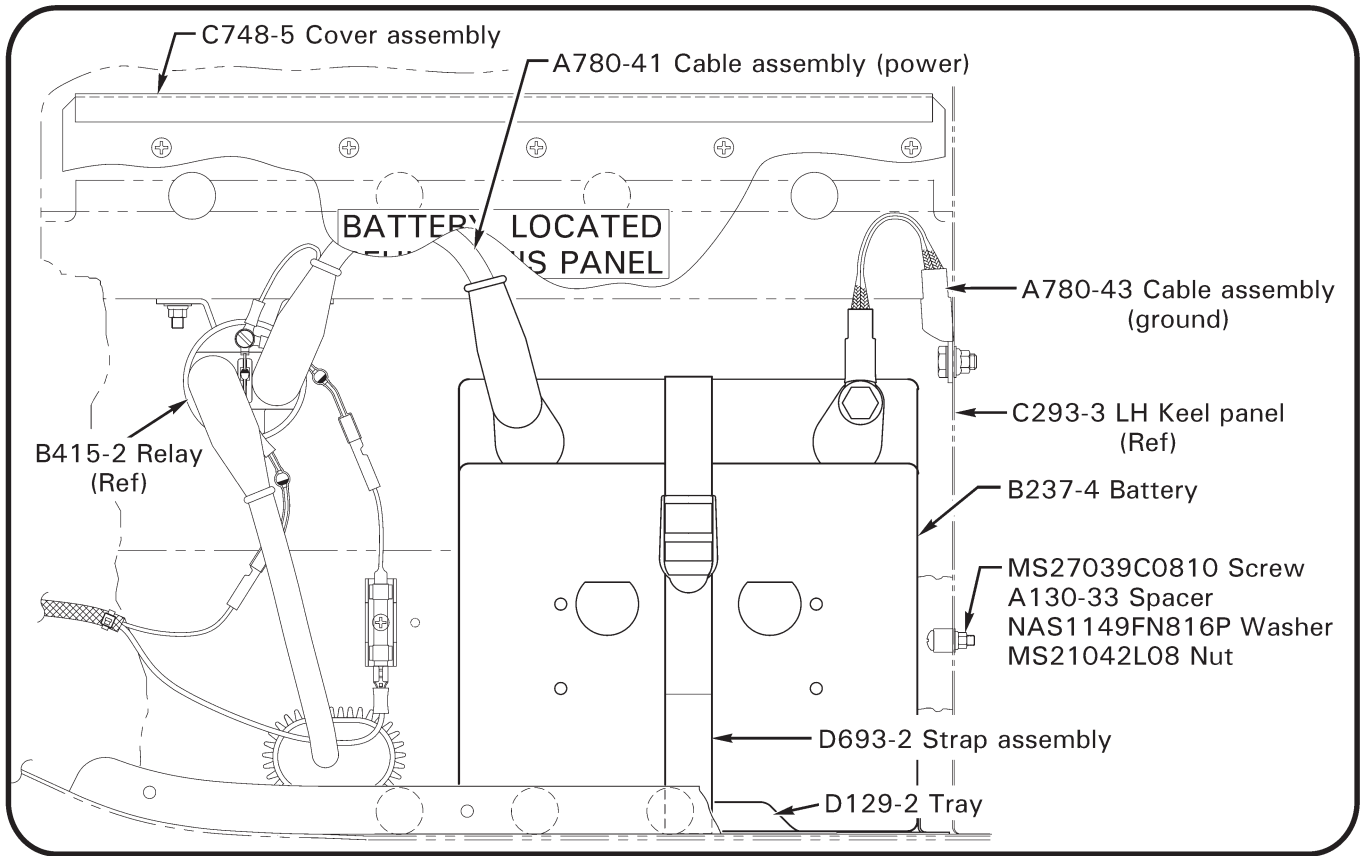

FIGURE 1 Existing B237-4 (24V) battery installation
1. Refer to Figure 1. Turn BATTERY switch OFF. Pivot front left seat forward and remove F470 liner or C003-8 insulation (ref. R44 Illustrated Parts Catalog [IPC] Figure 25-33). Remove and discard C748-5 (battery) cover assembly. Release D693-2 strap assembly.